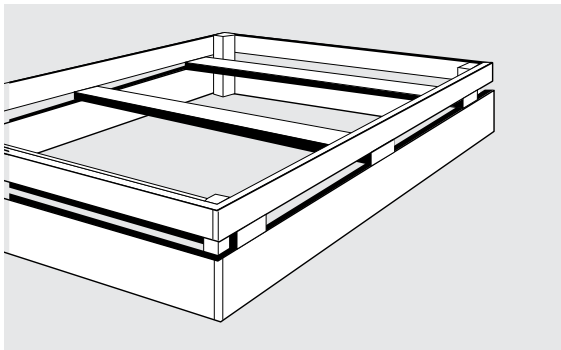

Figure 2: Bottom view of dock
1. Following the illustrations, create the framework shown in Figure 2. With the frame structure upside down, nail on the three cross ties and the four skirt boards.